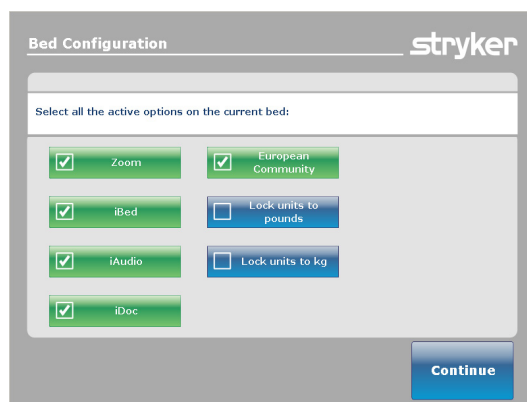

Figure 30b: Bed Options Screen
2. Once the **Close** button is pressed in step 1, the Bed Options screen will be displayed as shown in Figure 30b.
Note: In Figure 30b, the options selected are Zoom, iBed and iAudio, iDoc and European Community. Options selected will turn green.